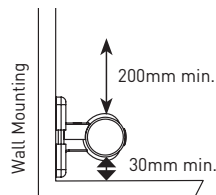

Fig.4
- Follow minimum clearances below and above the heater as shown in [Fig.4].